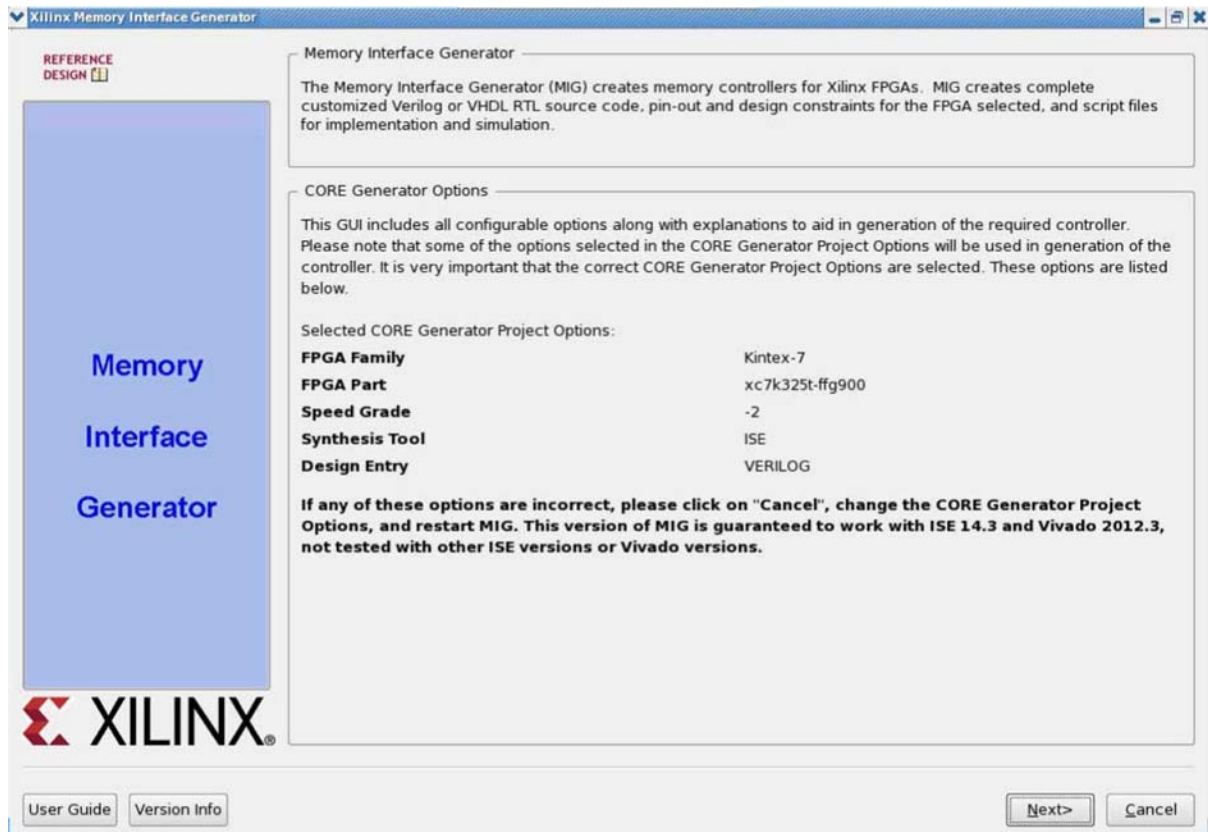

Figure 2-13: 7 Series FPGAs Memory Interface Generator FPGA Front Page
13. Select **MIG 7 Series** to open the MIG tool (Figure 2-13).